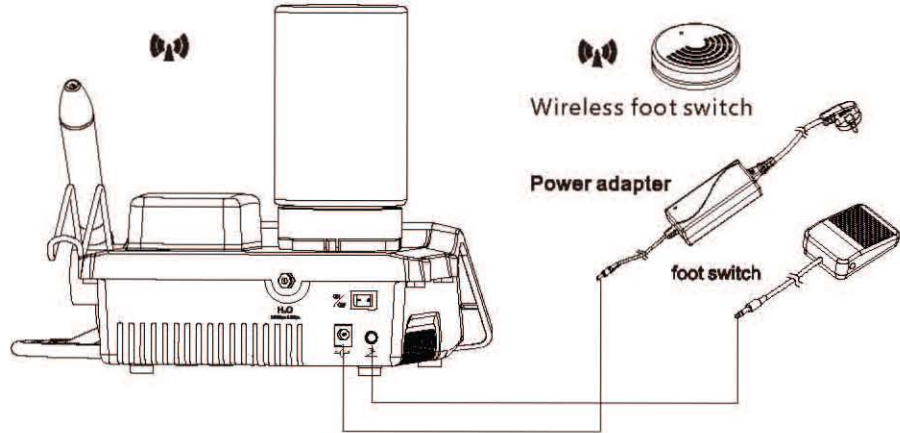
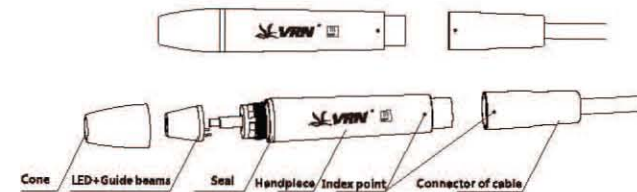

FIGURE 3
FIGURE 8
- 3) Install the battery for wireless control foot switch, or insert the plug of the cord foot switch into the main unit. (Figure 8, Figure 3)
#### **2.1.2 Instruction for main components of detachable handpiece ( See figure 8 )**